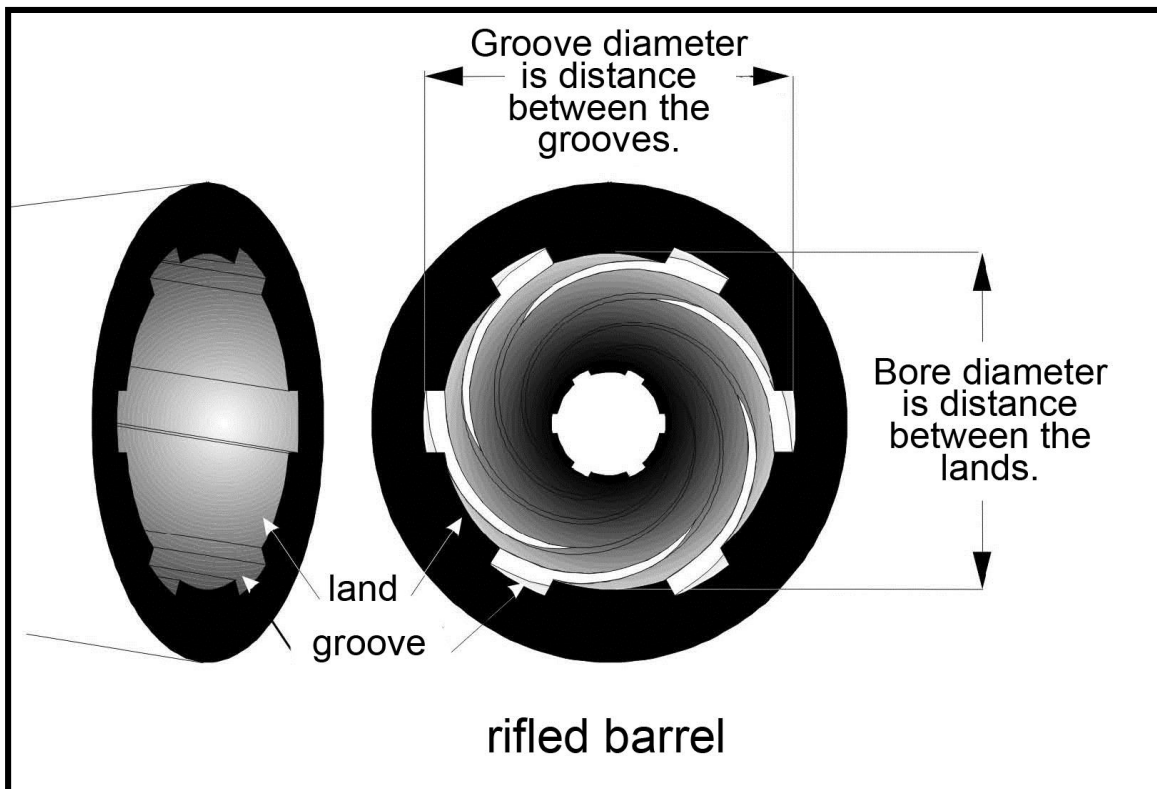

Figure 91. Rifled Barrel
- a. Most hand guns have a rifled barrel. Rifled barrels have a series of spiral grooves inside the barrel. The ridges of metal between the grooves are called lands. The lands and grooves together make up the rifling (Figure 91).